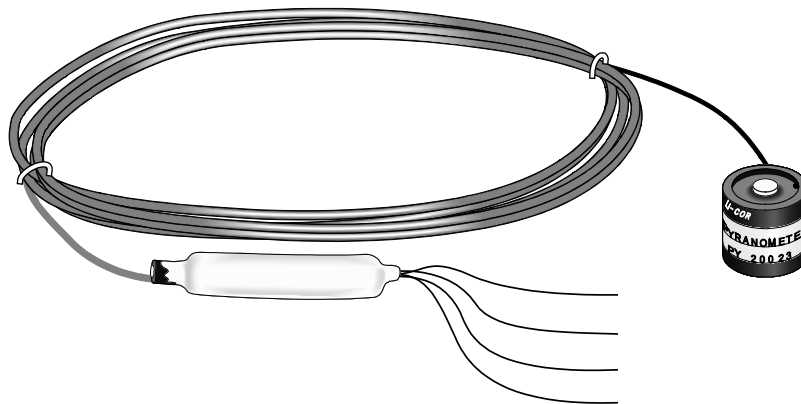

FIGURE 5-1. LI200X Pyranometer with –PT cable termination option.
- Pigtails that connect directly to a Campbell Scientific datalogger (cable termination option –PT; see FIGURE 5-1).